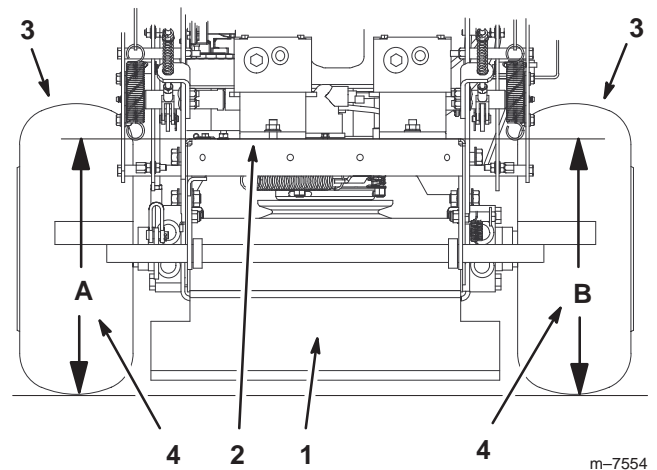

Figure 67
- Measure engine deck height at location **A** (Fig. 67).
- Measure engine deck height at location **B** (Fig. 67).